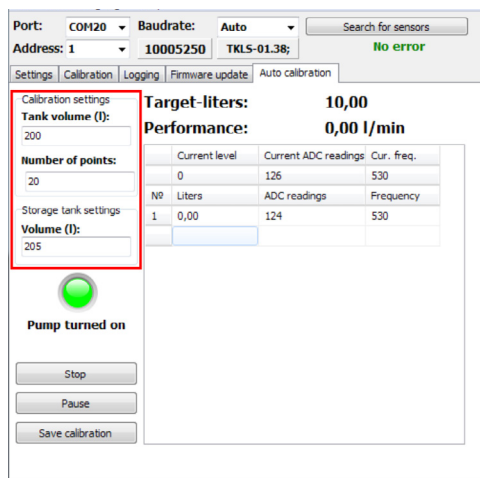

Fig.18. Settings on the Auto calibration tab.
- Before starting the calibration, specify the fuel tank volume in the “Tank volume (l)” field (Fig.18). Also specify a number of calibration points in the “Number of points” field. Maximum value is 50;
- Then specify the storage tank volume in litres (Fig.18);